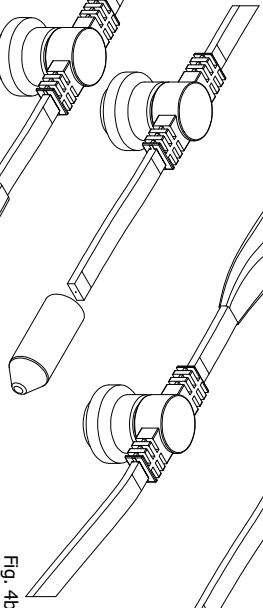

Fig. 3b
- 8) With a heat gun or torch, shrink large heatshrink, centered on terminal block. (Fig. 3b, Fig 4b)
- 9) Slip over small heatshrink and shrink on. (Fig. 3b, Fig 4b)